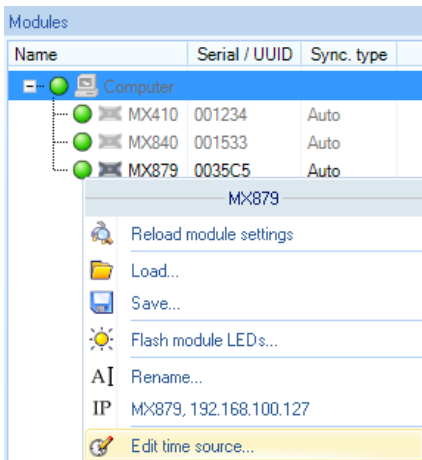

Fig. 7.12 **Modules** component window with the context menu for a module
1. In the MX Assistant component window **Modules**, right-click on the module with the highest UUID and select **Edit time source** (Fig. 7.12).